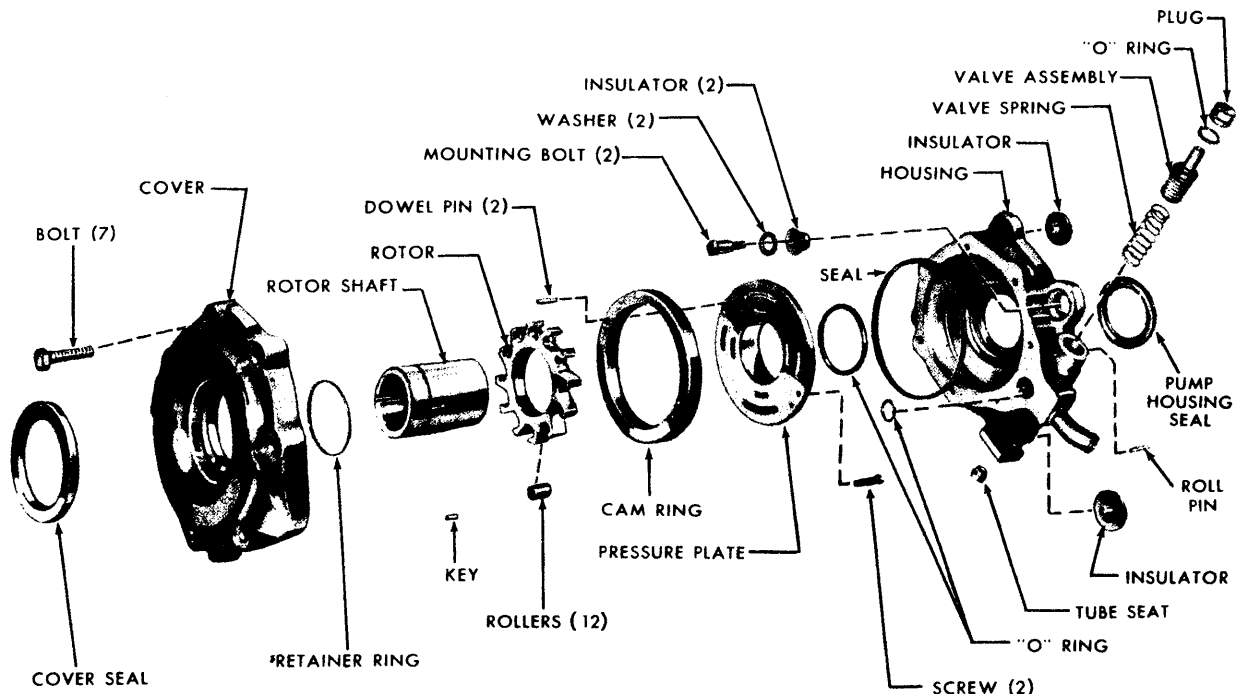

FIG. 29—Power Steering Pump
1. Drain the fluid from the pump. Remove the pump cover to housing cap screws (Fig. 29). Place the pump on the bench, cover side down. Lift the housing from the cover.
1. Install the control valve spring in the housing. Install the valve with the small sensing hole in the end of the valve toward the spring. Install a new O-ring on the plug. The plug O-ring is 1/8 inch smaller in diameter than the bypass O-ring. Make sure the proper O-ring is used. Install the plug and a new roll pin (Fig. 29).